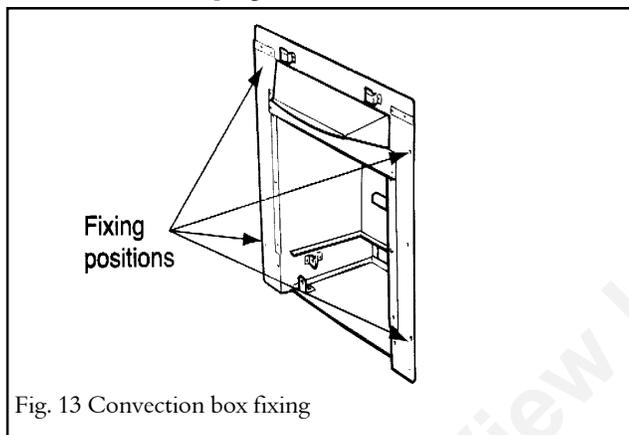

Fig. 13 Convection box fixing
9.1.2 Mark the fireplace surround through the four fixing holes in the side flanges of the convection box (see figure 13).
9.6 If installing to zero clearance kit #775ZCK; Fit a thread cutting screw through the four holes in the convection box side flanges and tighten to seal the box to the kit (see figure 13).
9.7 If installing to masonry fireplace; Fit a woodscrew through each hole in the convection box flanges and tighten to seal the box to the fireplace surround (see figure 13).